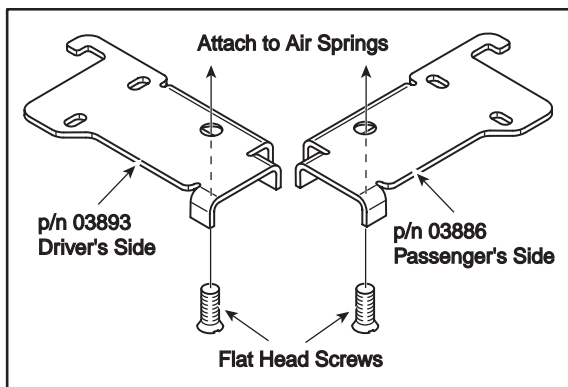

Figure 4
1. Set the assemblies on the leaf springs behind the axle. Use the lower bracket #03983 (D) on the left (driver's side) and lower bracket #03886 (E) on the right (passenger's side)(Figure 4).